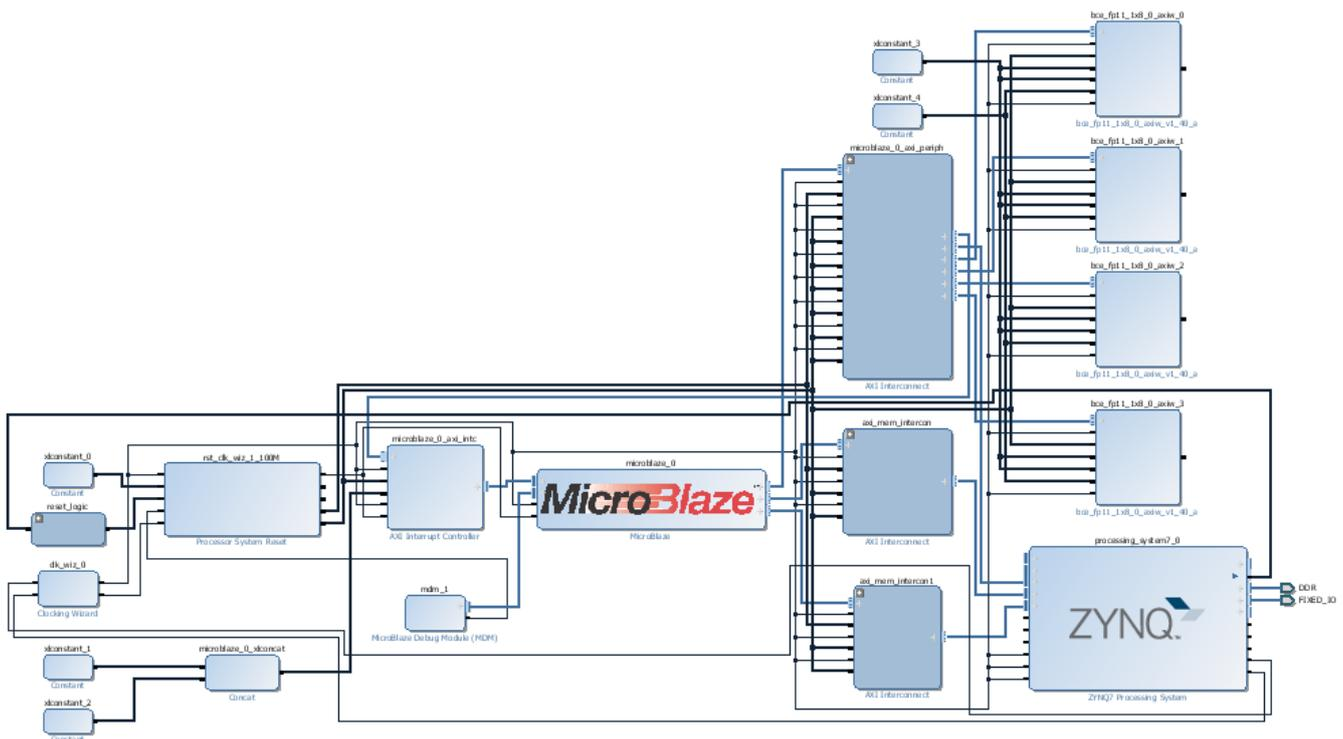

Figure 1: AMP evaluation design with 4 EdkDSP accelerators in Vivado2013.4 IP Integrator;
- 8 evaluation versions of AMP designs. Each design contains one used ARM Cortex A9 processor core, one MicroBlaze and four instances of the EdkDSP accelerators with 8xSIMD floating point data paths with AXI-lite bus. (ARM 666 MHz, MicroBlaze 100 MHz, Accelerators 100 MHz) Designs are compiled in Xilinx Vivado 2013.4 [6]. See Figure 1